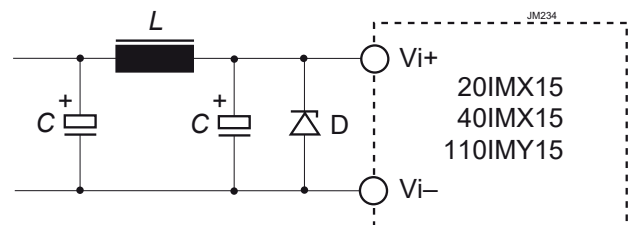

Fig. 6
⁴ Double-output models with both outputs in parallel. External filter as in fig. 6, table 6.
- 4 Double-output models with both outputs in parallel. External filter as in fig. 6, table 6.
For very high energy transients as for example to achieve compliance to IEC/EN 61000-4-5 (see table *Electromagnetic Immunity*), an external inductor and a capacitor are required, see Fig. 6. The components are specified in table 6.